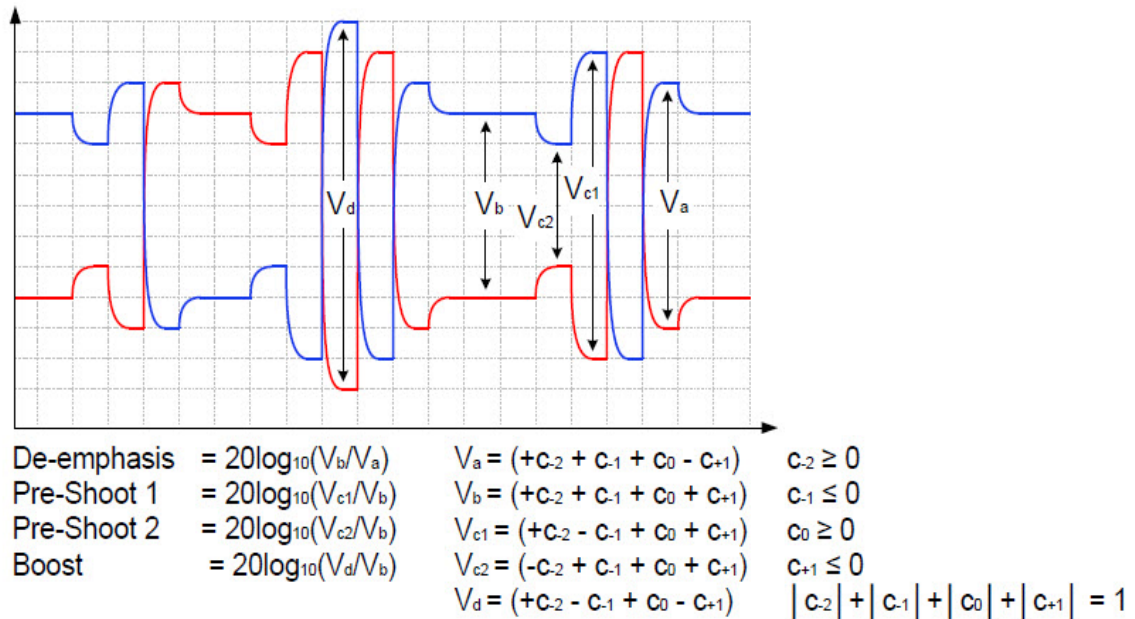

Figure 26 Waveform measurement points for preshoot and de-emphasis
64.0 GT/s PCIe signaling must support the full range of presets given in Table 8-2 (PCIe Base Specification Revision 6.0). Presets are defined in terms of ratios, relating the pre-cursor and post-cursor equalization voltages. The pre-cursor (V_c) is referred to as pre-shoot, while the post-cursor (V_b) is referred to as de-emphasis. This convention permits the specification to retain the existing 2.5 GT/s and 5.0 GT/s definitions for Tx equalization, where only de-emphasis is defined, and it allows preshoot and de-emphasis to be defined such that each is independent of the other. The tolerances in Table 8-1 (PCIe Base Specification Revision 6.0) also apply to 2.5 and 5.0 GT/s de-emphasis. The maximum swing, V_d , is also shown to illustrate that, when both c_{+1} and c_{-1} are nonzero, the swing of V_a does not reach the maximum as defined by V_d . The high frequency nature of PCIe signaling makes measurement of single UI pulse heights impractical. Consequently all amplitude measurements are made with low frequency waveforms as shown in Figure 26.
- 13 Computes their equalization voltages by using Matlab, and then calculates equalization ratios by using the formulae stated in Figure 26 (Figure 8-6 of the spec).